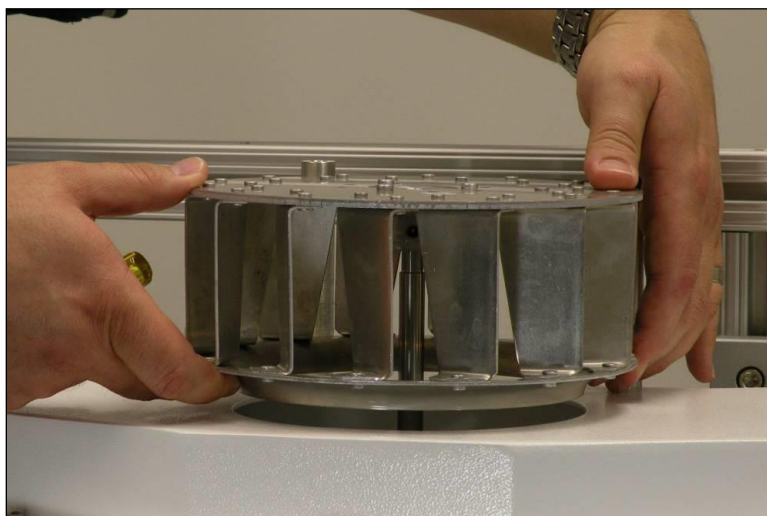

Figure 119. Removing impeller
- Slide off the impeller from the top (Figure 119).